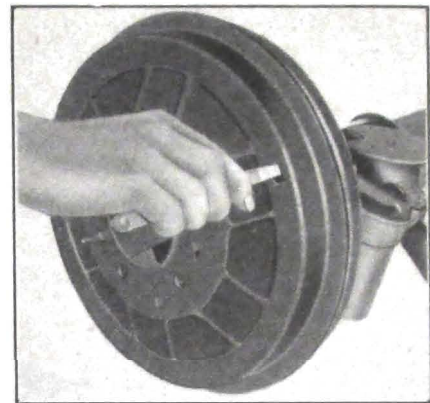

Fig. 5-12. Brake Drum Feeler Gauge
12. Turn shoe adjusting screw and loosen and move anchor pin if necessary, to obtain .015" clearance between drum and each end of secondary shoe, see Fig. 5-12. Solid contact of primary shoe against drum must be maintained during this adjustment.